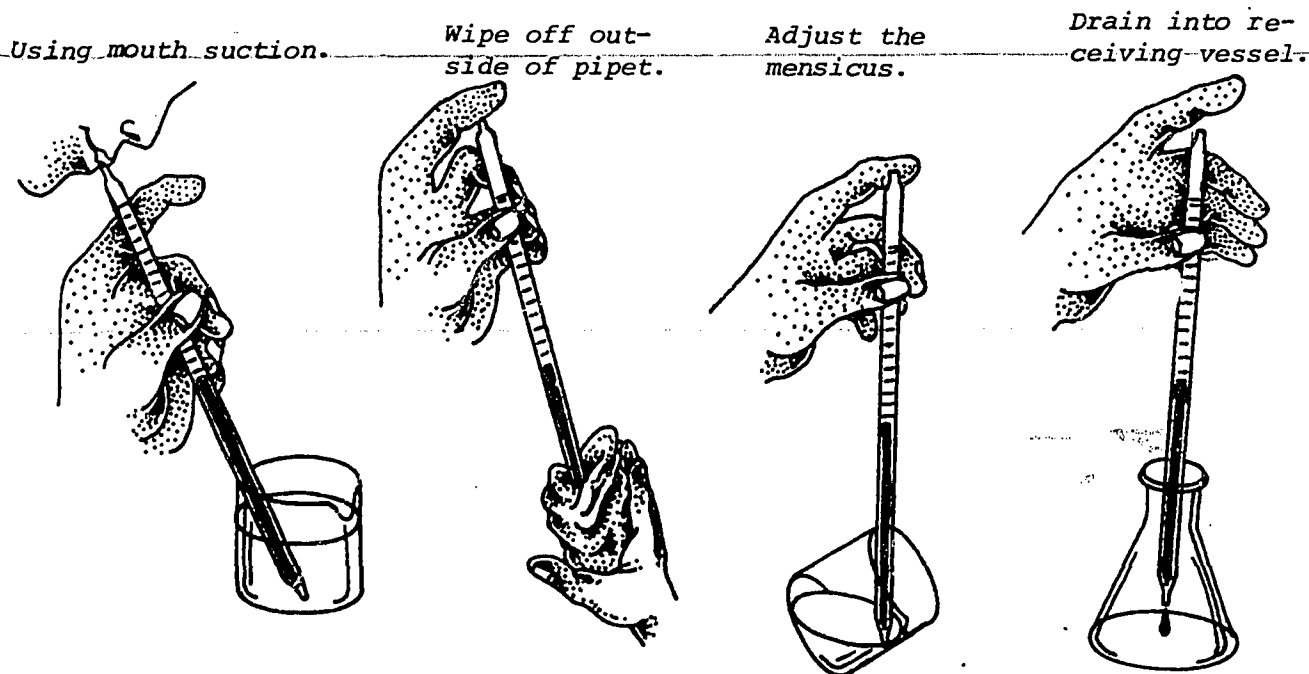

FIGURE 2: Pipetting technique.
The following is a general guide for pipetting (see Figure 2). It will be helpful to read the entire procedure before beginning. Practice pipetting different volumes of water until you understand the technique thoroughly.
2. Hold the pipet with the thumb and the last three fingers, keeping the index finger free as in Figure 2.